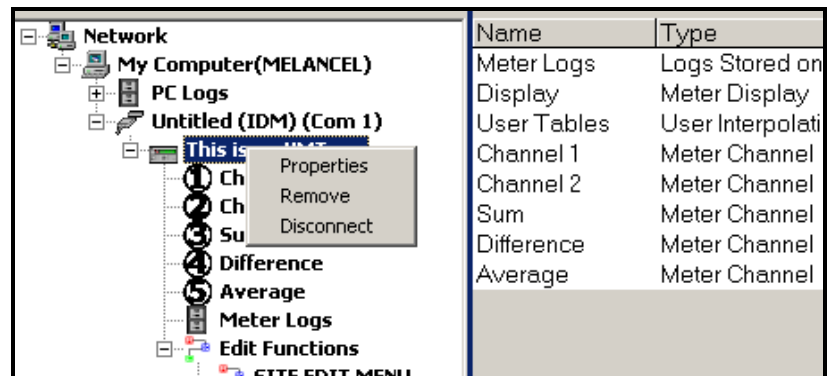

Figure 2-4: Properties Option in the New Meter Browser
2. Right-click on the highlighted XGM868i and click on the *Properties* option, as shown in Figure 2-4 below.